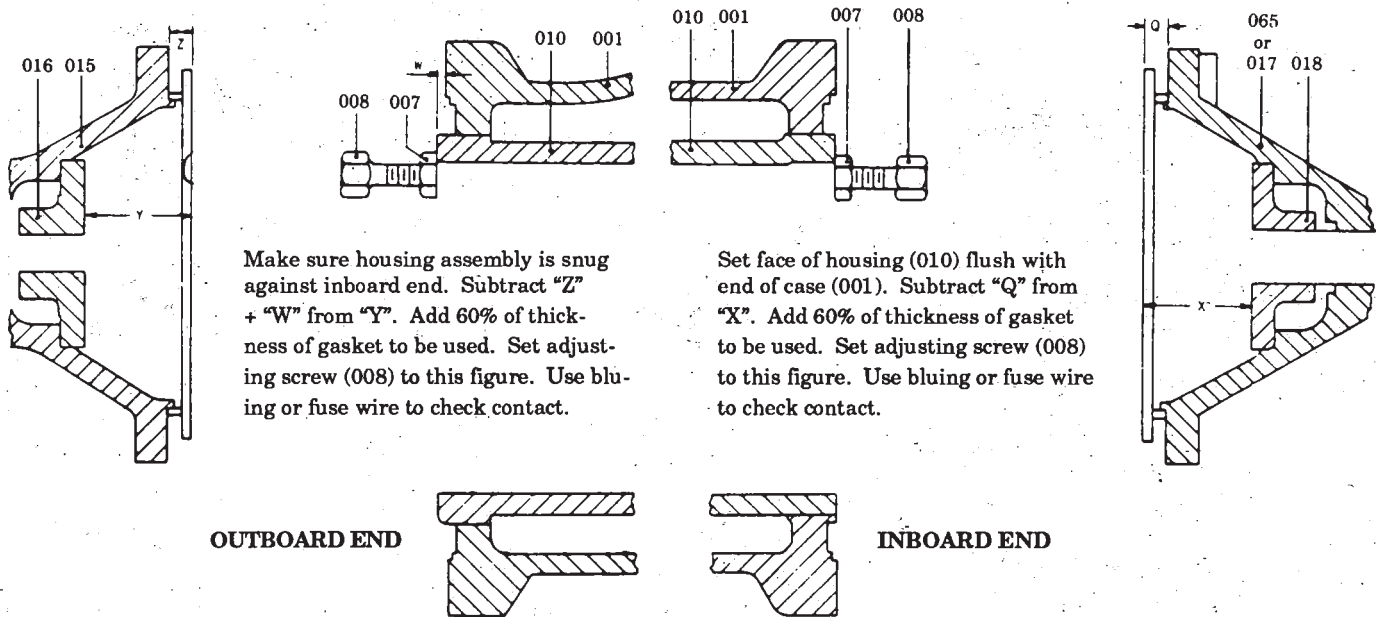
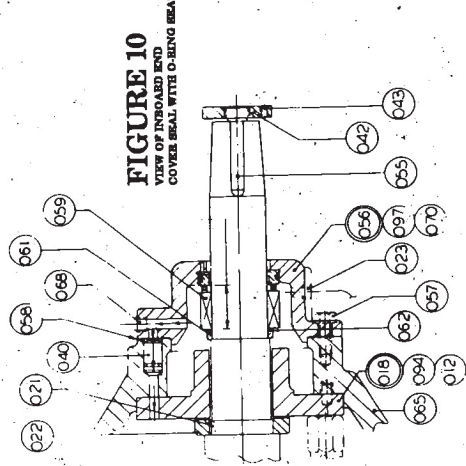

FIGURE 8. Setting of Housing Adjusting Screws
FIGURE 10
NOTE: If check valve (040) was removed during disassembly, install check valve in packing box cover (017, Figures 9, 13 and 14) or inboard cover (065, Figures 10, 11, 12, and 15).
Figures 10, 11, 12 and 15: Coat inboard bearing (094) with oil; align spring pins (012) of inboard bearing (094) with slots in inboard cover (065) and install inboard bearing sub-assembly (018) in inboard cover (065). Install gasket (005) and assembled inboard cover (065) to case (001) using bolts (002). Torque bolts (002) to proper value listed in Table 2.
STEP 6. All Pumps: Adjust screws (008) on inboard and outboard ends of housings as outlined in Figure 8. Correct adjustment should be verified for inboard end before adjusting screws on outboard end. Remove inboard cover (017, Figures 9, 13 and 14) or (065, Figures 10, 11, 12 and 15) and verify adjusting screws (008) contact on inboard bearing (018). Adjust screws (008) as necessary for required contact. Ensure jam nuts (007) are locked tight. Install inboard cover as outlined in Step 3. Torque bolts (002) to proper value listed in Table 2. With proper adjustment verified for inboard end adjusting screws (008), perform procedure outlined for adjusting screws on outboard end of pump, Figure 8. Remove outboard cover (015) and check for contact between outboard bearing (016) and screws (008). Adjust screws (008) as necessary. Ensure jam nuts (007) are tight. Outboard cover (015) will be replaced in Step 9. **CAUTION:** Do not exceed 0.003-inch pressure on adjusting screws (008) to avoid distortion of rotor housing bores.
STEP 7. All Pumps: Place key (021) in inboard key slot of power rotor (013). Align inboard collar (022) with key (021) and slide collar (022) on power rotor (013). Slide shim (020) on outboard end of power rotor (013). Place key (021) in power rotor outboard end key slot. Align outboard collar (019) with key (021) and slide collar (019) on power rotor.
STEP 8. All Pumps: Mesh threads of idlers (014) with threads of assembled power rotor (013) and slide rotor assembly (013 and 014) into housing (010) rotor bores from outboard end of pump.
STEP 9. All Pumps: Install assembled outboard cover (015) and gasket (005) on case (001) using bolts (002). Torque bolts (002) to necessary value as given in Table 2.
STEP 10. All Pumps: Mount a dial indicator on inboard cover to measure end clearance (axial movement) of power rotor (013). Axial movement should be 1/16-inch (+ 1/64-inch, -0) for packing pumps (Figures 9, 13 and 14), 0.030-inch (+ 0.005-inch, -0) (Figures 10, 11, 12 and 15) or 0.010-inch (+ 0.005-inch, -0) (Figure 10 with Borg Warner BX Seal). If end clearance must be adjusted, remove assembled outboard cover (015), outboard collar (019) and key (021). Add or remove layers of shim (020) to obtain desired end clearance. Replace key (021), outboard collar (019) and assembled outboard cover (015). Torque outboard cover bolts (002) to required values given in Table 2.
Figure 10 (with Figures 5 or 6): Install gasket (058) and seal cover (056) on inboard cover (065) using bolts (057). Torque bolts (057) to required value given in Table 2. Pull power rotor in axial direction until inboard collar (022) is in contact with inboard bearing (018). Scribe power rotor shaft at point where it begins to extend through seal cover (056) to use as a reference point in setting operating length of mechanical seal. Remove bolts (057), seal cover (056) and gasket (058). Install O-ring (2, Figure 5 or 6) on seal seat (1, Figure 5 or 6).
Figure 10 (with Figure 7): Install gasket (058) and seal cover (056) on inboard cover (065) using bolts (057). Torque bolts (057) to required value from Table 2. Pull power rotor in axial direction until inboard collar (022) is in contact with inboard bearing (018). Scribe power rotor shaft at point where it begins to protrude through seal cover (56) to use as a reference point in setting operating length of mechanical seal. Remove bolts (057), seal cover (056) and gasket (058). Install O-ring (2, Figure 7) on seal seat (1, Figure 7) and slide seal seat into seal cover (056). Measure distance of seal cover from face of cover to face of seal seat which rides against rotating parts of seal, and identify distance as "A." Place rotating parts of seal (3, Figure 7) on flat surface and measure free length of seal, and identify length as distance "B". Subtract .080-inch (± .010-inch) from distance "B," and identify result as distance "C". Add distance "A" and "C," and identify resulting distance as "X." From scribe mark on power rotor where it extends through seal cover (56), measure distance "X" toward center of pump, and lightly scribe power rotor to indicate where rear of rotating elements of mechanical seal should be installed.
Crane 8B3 (Figure 5), Borg Warner Q (Figure 6) and Borg Warner BX (Figure 7) Mechanical Seals: Slide mechanical seal rotating assembly (3) on power rotor (013) with face of rotating assembly positioned at scribe mark on power rotor. (Position of scribe mark determined in Step 11, Figure 10 with Figures 5, 6 or 7.) Tighten setscrews.
STEP 12. *Figures 10, 11, 12 and 15:* Install gasket (058) and seal cover sub-assembly (056) using bolts (057). Torque bolts (057) to necessary value listed in Table 2.